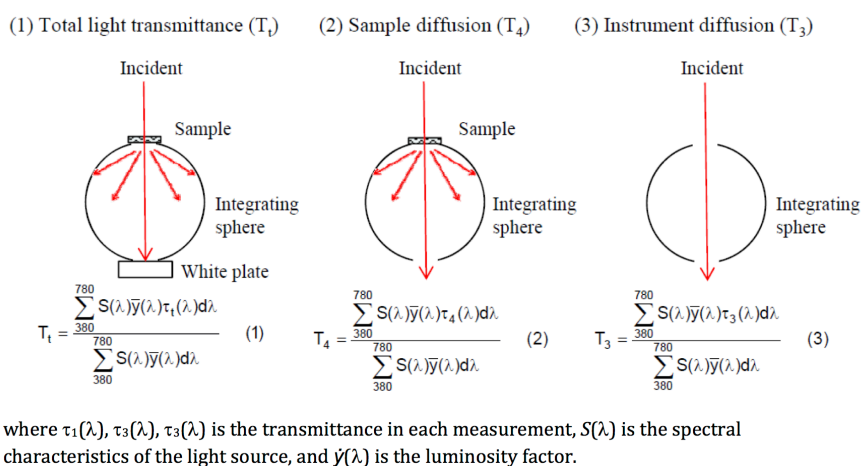

Figure 1. Haze value measurement setup and equations.
Figure 1 illustrates how the total transmittance (T_t), sample diffusion rate (T_d), and scattering rate (T_s) are obtained using an integrating sphere. The baseline spectrum is obtained using a white diffuser plate (1) and the light scattered by the instrument itself is measured (T_s) in order to calibrate the spectrophotometer.